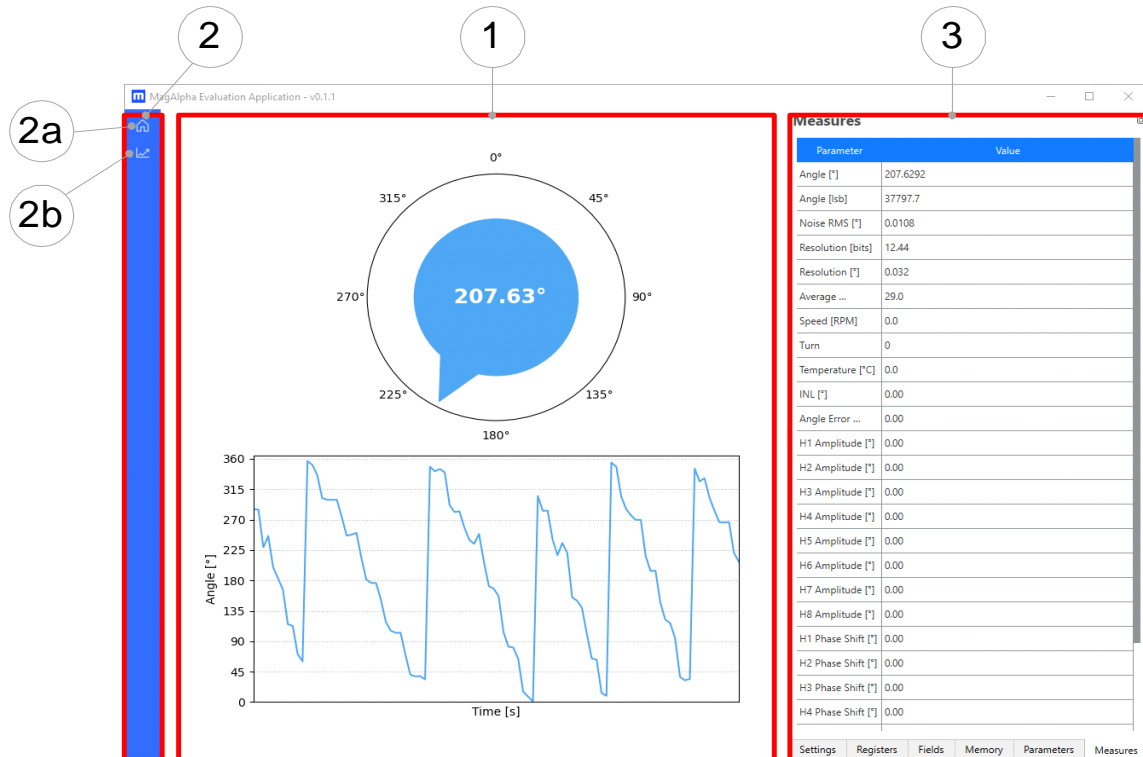

Figure 15: Application Layout
The application window is divided into different sections (see Figure 15). The sections are explained below.
8. **Wait Time Between Samples**: Defines the duration of the additional waiting time inserted between each angle measurement. The evaluation kit board reads the sensor's angle output as fast as possible. The actual sensor's sampling rate is influenced by the selected serial interface and its clock frequency. This parameter allows users to reduce the angle's sampling rate. This is especially useful for measurements that require at least one full rotation to compute the results. The measurements include the angle error, INL, calibration, and harmonics extraction. The median sampling period can be read on the Measures dock widget (see Figure 15 on page 11).
19. Show Locked Registers: Shows the locked registers and fields on the Registers and Fields dock widgets (see Figure 15 on page 11). By default, these registers are hidden.